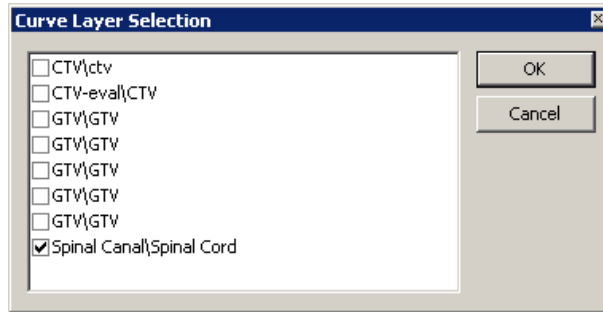

Figure 40: Curve Layer Selection Dialog Box
1. Click  in the Image Registration window to open the Curve Layer Selection dialog box, as shown in Figure 40.